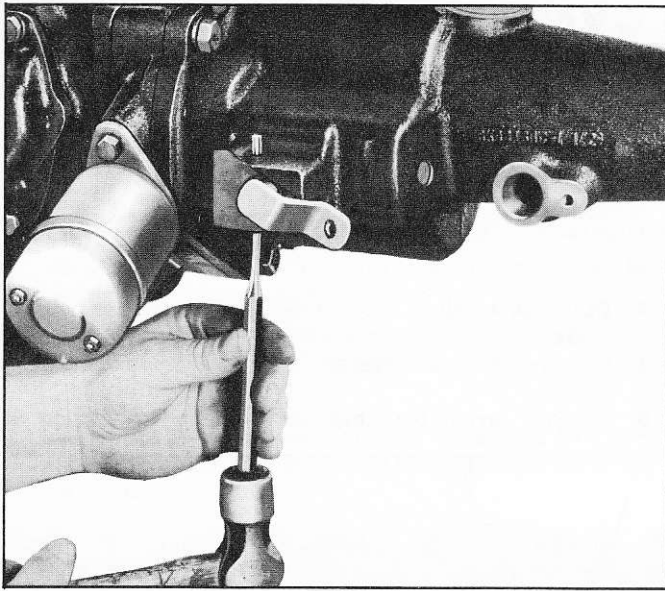

Fig. 2B—Removing Control Shaft Tapered Pin
8. Drive out the control shaft tapered pin (fig. 2B) and pull control shaft out.